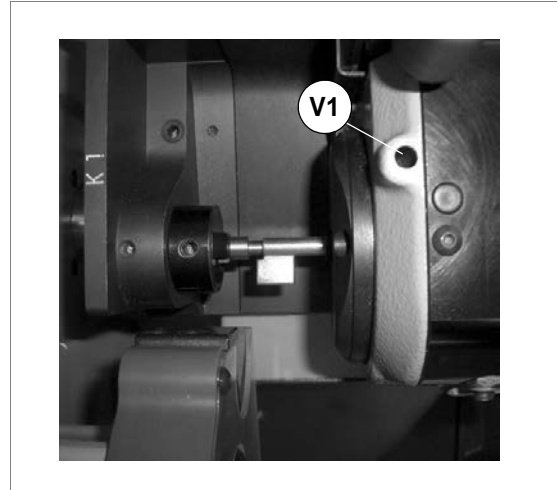

Fig. 88
- 5) Fit the key blank into the front side of the rotating clamp (S1) and position it on the groove in the jaws, then take the key forward until the adapter E15 goes into the hole in the stem (fig. 88).